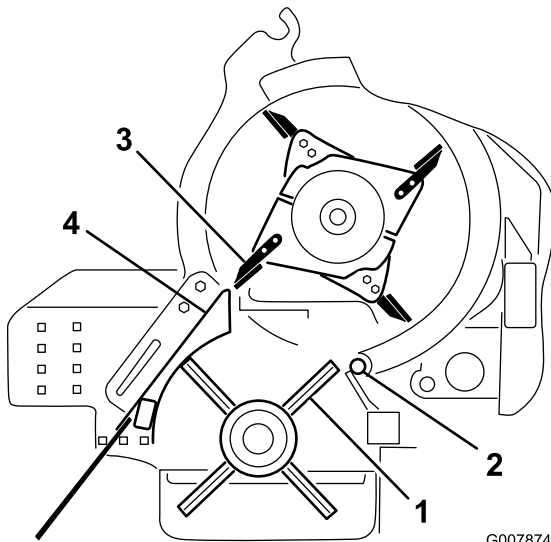

Figure 61
4. Rotate the brush pulley until a brush row is aligned with the rotating corner (Figure 61).
5. Rotate the chopper until a blade tip is aligned with the outside of the brush housing (Figure 61).